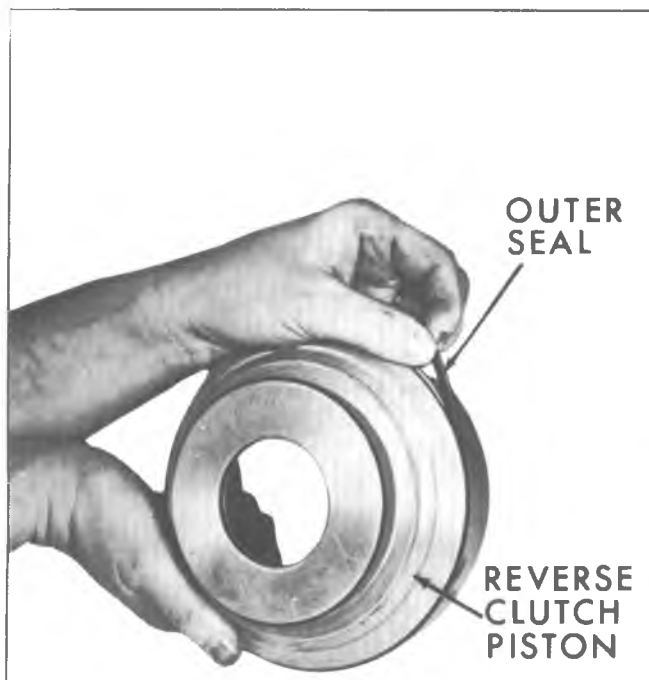

Fig. 7A-51B--Removing Low and Reverse Clutch Piston Outer Seal
25. Remove low and reverse clutch piston center and inner seal (fig. 7A-52B).